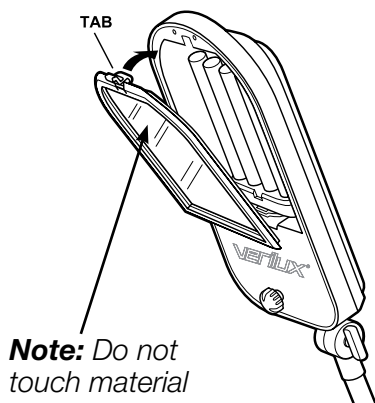

Fig. 2
- Insert tabs on bottom of filter into opening. (Fig. 2)